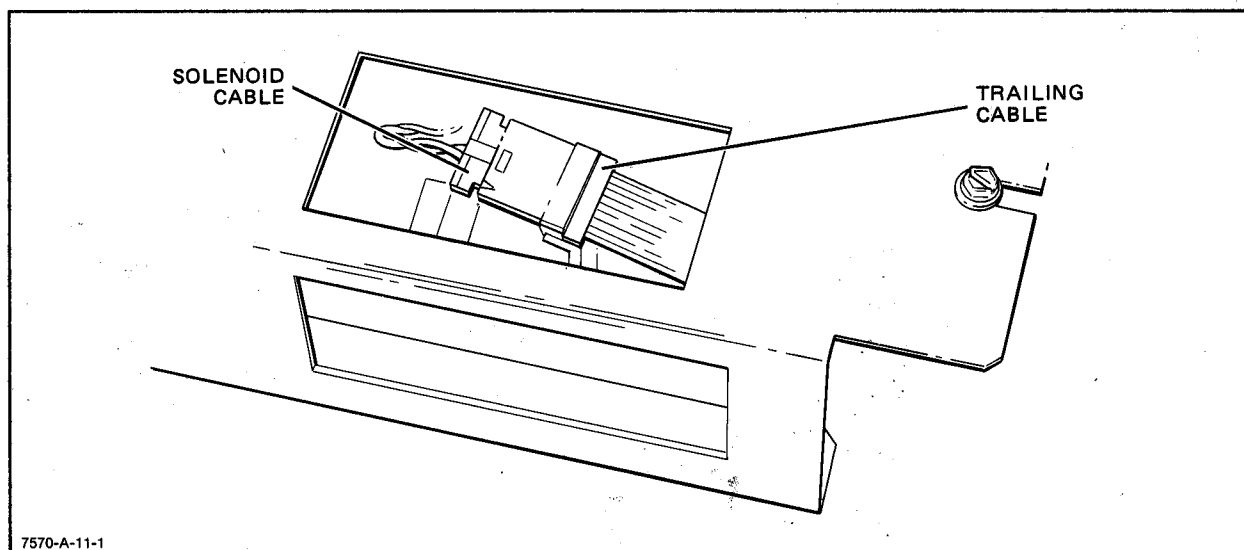

Figure 6-3. Solenoid Trailing Cable
- c. Unplug the pen solenoid cable from the trailing cable. See Figure 6-3.